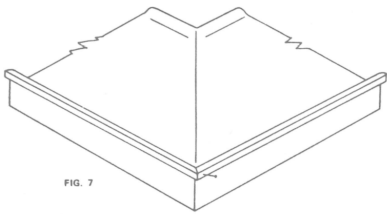

FIG. 7
5. Check seam where backsplash sections join. If flush, tighten the nearest fastener. Use a 1 1/4" nail (Fig. 7) and toenail the backsplash sections.